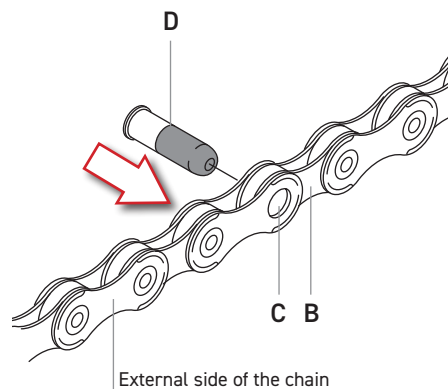

Fig.8
- Insert the inner link (B - Fig. 8) into the outer link (C - Fig. 8), and then insert the guide of the rivet **ULTRA-LINK 5-CN-RE500 (11s) / 5-CN-SR600 (12s)** (D - Fig. 8) into the hole of the link from the inside of the chain towards the outside.